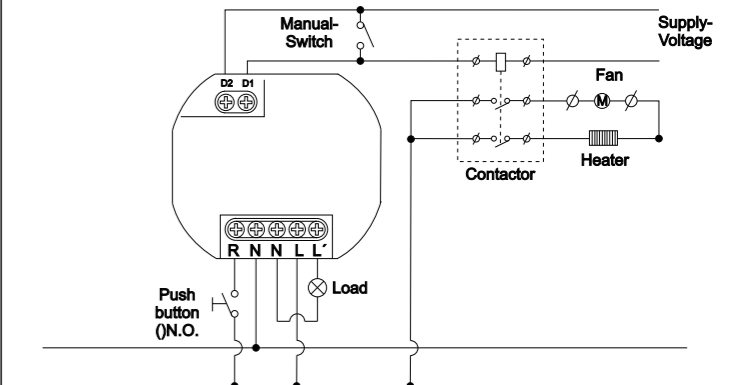

FIG. 5
3.3.1 Normal operation (See FIG. 5).
3.4.3 Please refer to illustration of FIG.5 - FIG.6 for correct wiring and get "▼" symbol of the protection cap is aligned with the "▲" symbol of housing (See FIG.10), then screw the protection cap tightly.